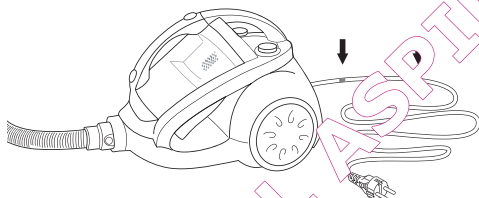

Figure 5 Measuring the power cord
5. The power cord has a yellow and red mark, see Figure 5. Pull out the cord to the yellow mark.